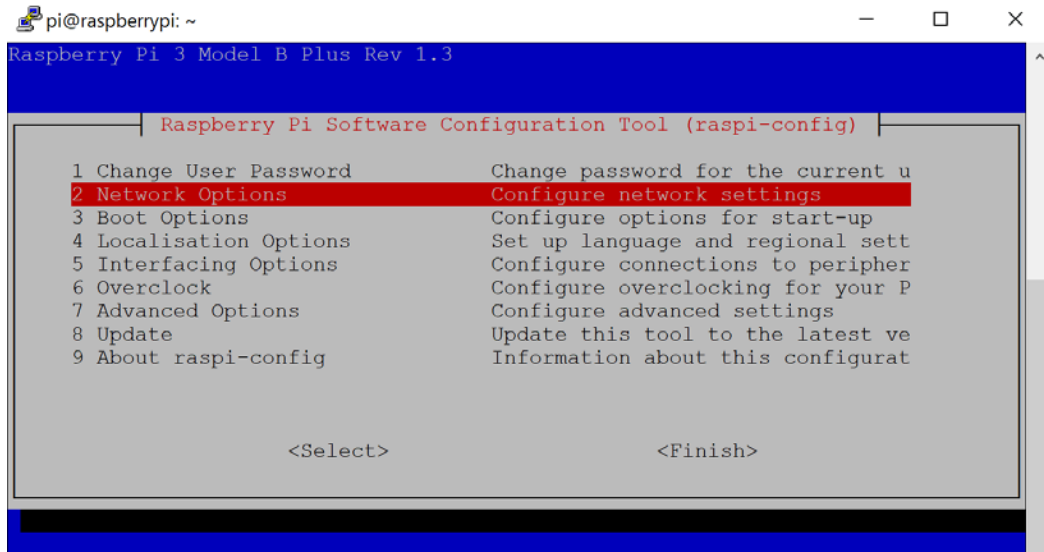

Figure 4.6 – Network options
1. In `raspi-config`, select **Network Options**, shown in *Figure 4.6*. Use the arrow keys on your keyboard to highlight and press `Enter` to select the entry: